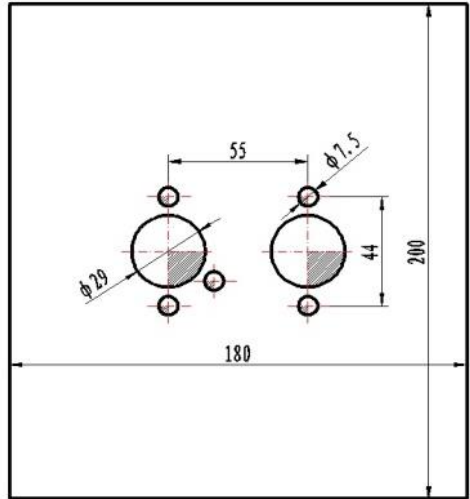

Fig 12
4.2.4 If the sickness of the installation panel < 1.5mm a mounting plate may need. Between mounting plate and the car body must also be sealed (use glass glue(Fig.12)).